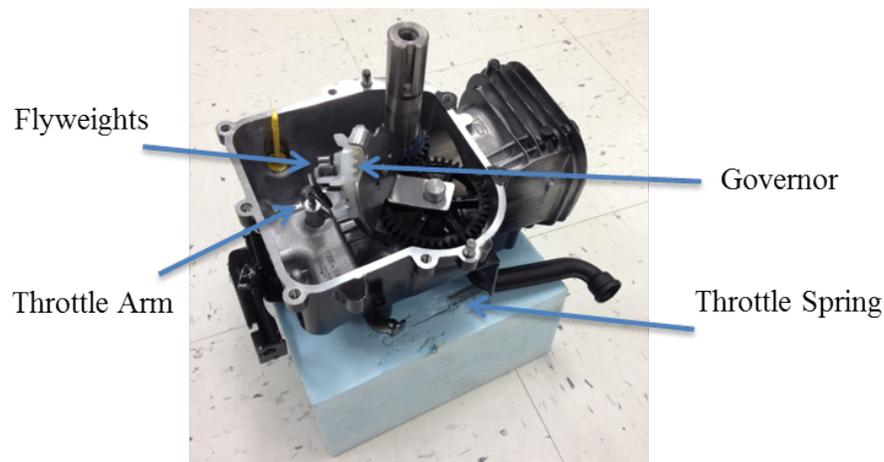

Figure 10: engine speed governing system
10. Identify the governor. The governor maintains engine speed when the engine is loaded and unloaded. Inspect it. Spin the white gear with your fingers. Install it in the engine and observe where it is with respect to other components. See Figure 10.